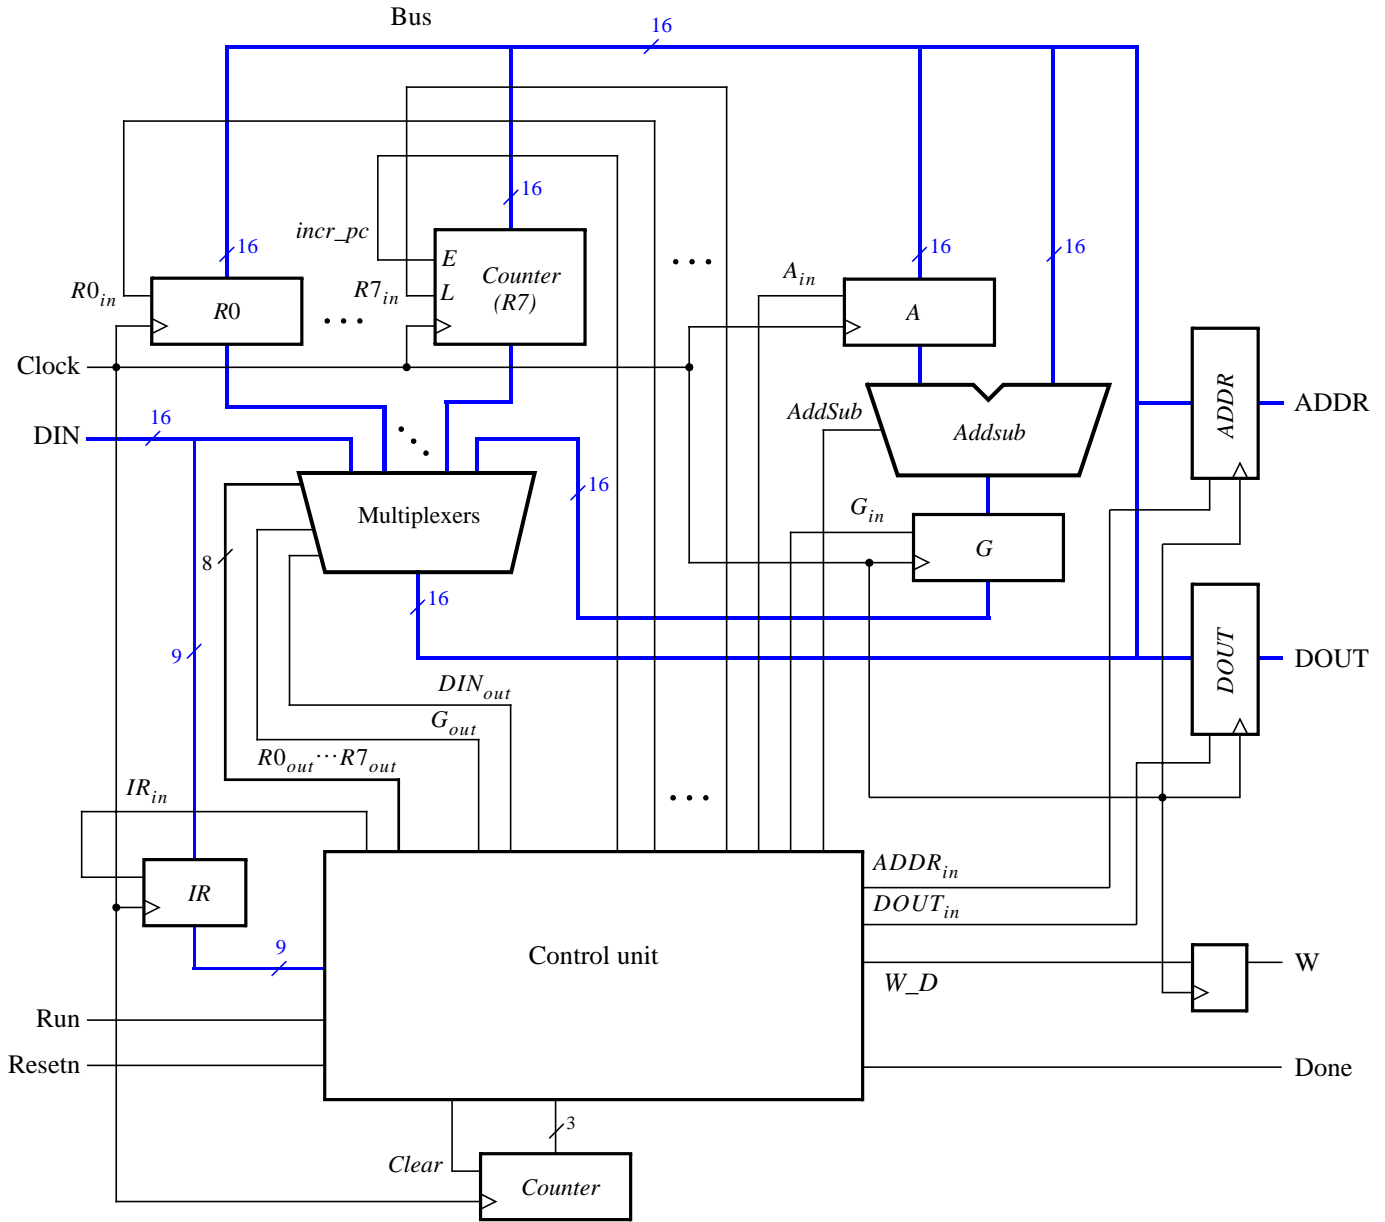

Figure 7. An enhanced version of the processor.
A schematic of the enhanced processor is given in Figure 7. In this figure, registers *R₀* to *R₆* are the same as in Figure 1 of Laboratory Exercise 9, but register *R₇* has been changed to a counter. This counter is used to provide the addresses in the memory from which the processor's instructions are read; in the preceding lab exercise, a counter external to the processor was used for this purpose. We will refer to *R₇* as the processor's *program counter (PC)*, because this terminology is common for real processors available in the industry. When the processor is reset, *PC* is set to address 0. At the start of each instruction (in time step 0) the contents of *PC* are used as an address to read an instruction from the memory. The instruction is stored in *IR* and the *PC* is automatically incremented to point to the next instruction (in the case of **movi** the *PC* provides the address of the immediate data and is then incremented again).
Figure 7 shows two registers in the processor that are used for data transfers. The *ADDR* register is used to send addresses to an external device, such as a memory module, and the *DOUT* register is used by the processor to provide data that can be stored outside the processor. One use of the *ADDR* register is for reading, or *fetching*, instructions from memory; when the processor wants to fetch an instruction, the contents of *PC* (*R7*) are transferred across the bus and loaded into *ADDR*. This address is provided to memory. In addition to fetching instructions, the processor can read data at any address by using the *ADDR* register. Both data and instructions are read into the processor on the *DIN* input port. The processor can write data for storage at an external address by placing this address into the *ADDR* register, placing the data to be stored into its *DOUT* register, and asserting the output of the *W* (write) flip-flop to 1.